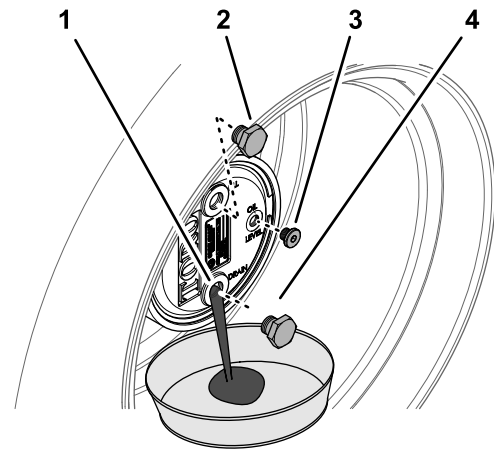

Figure 106
3. Place a drain pan under the planetary hub, remove the drain plug at the 6 o'clock position, and allow the oil to fully drain (Figure 106).
5. Install the drain plug into the drain hole of the planetary housing (Figure 106).
2. Remove the fill plug at the 12 o'clock position and the check plug at the 3 o'clock position (Figure 106).